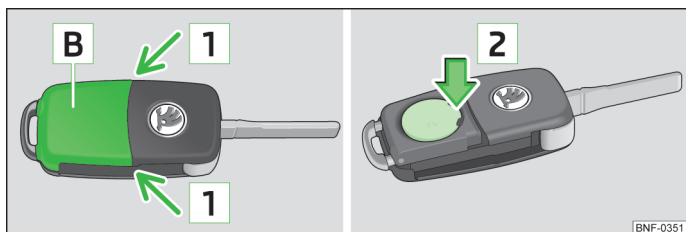

Fig. 7 Vehicle key: open the battery compartment cover / remove the battery
- Pry off the battery cover **B** » fig. 7 with your thumb or with a flat screwdriver at the points of the arrows **1** and remove .